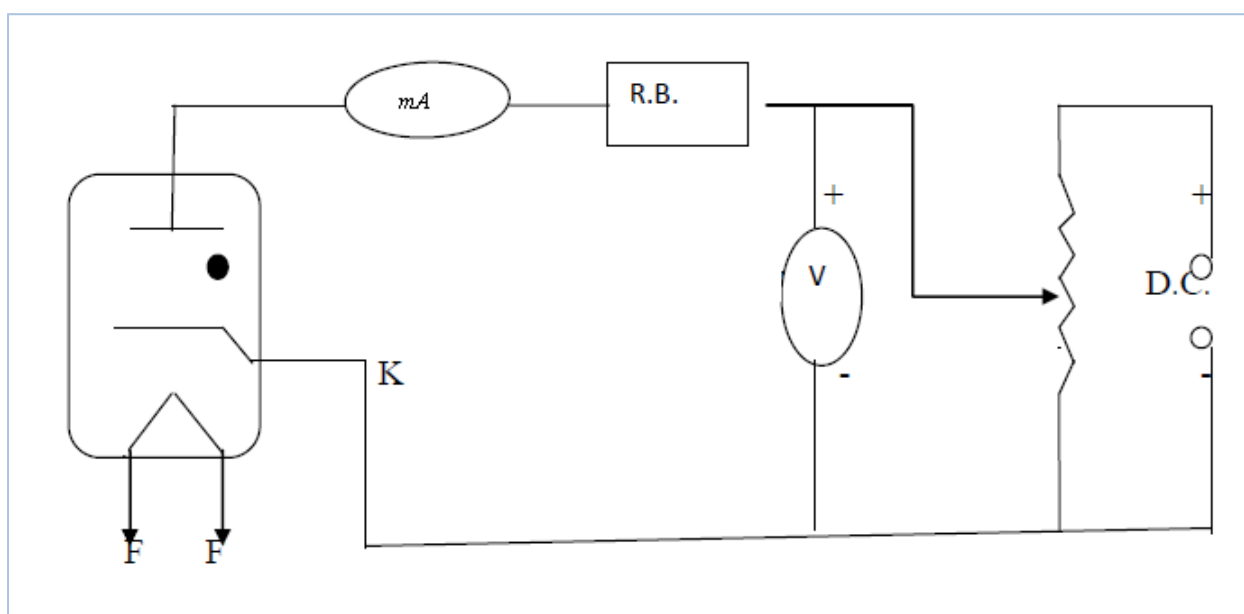

Figure 2: Circuit diagram showing the scheme of connections.
As the plate potential is increased, the plate current slowly increases. When the plate potential is increased beyond a critical value, the plate current also increases more rapidly. This is because when the plate potential approaches critical value, the electrons arriving at the anode gain enough energy to knock out the electrons from the atom of the gas. These electrons are also attracted by the anode causing an increase in plate current. The positive ions neutralize some of the space charge, which further helps to increase the kinetic energy of the thermal electrons. This value of plate potential is called the ionization potential of the gas. Circuit diagram to determine ionization potential of mercury is given in figure 2.
1. Draw the diagram showing the scheme of connections as in figure 2 and make the connections accordingly.